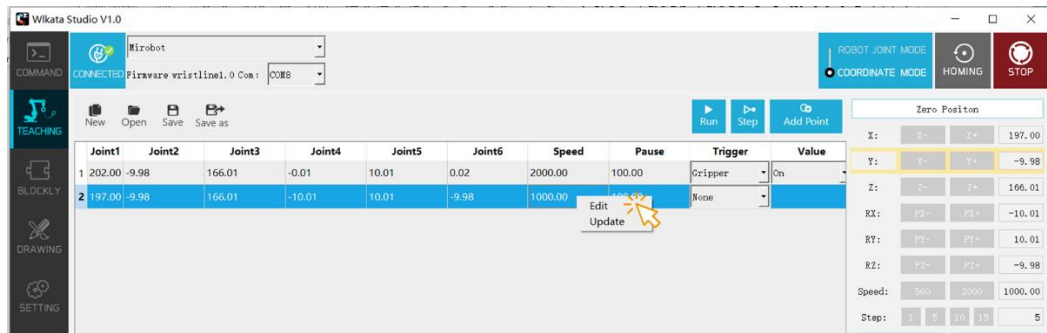

Figure 3.25 Editing the teaching point by the right-side panel
- Editing the teaching point by the right panel: single right-click on the top of the line you want to edit --> choose **Edit** in the pop-up menu --> adjust the value in the right panel --> move the mouse arrow back to the teaching point line you want to edit and single right-click on the top of the line again --> choose **Update** in the pop-up menu to apply the value on the right panel to the selected teaching point line. As shown in Figure 3.25